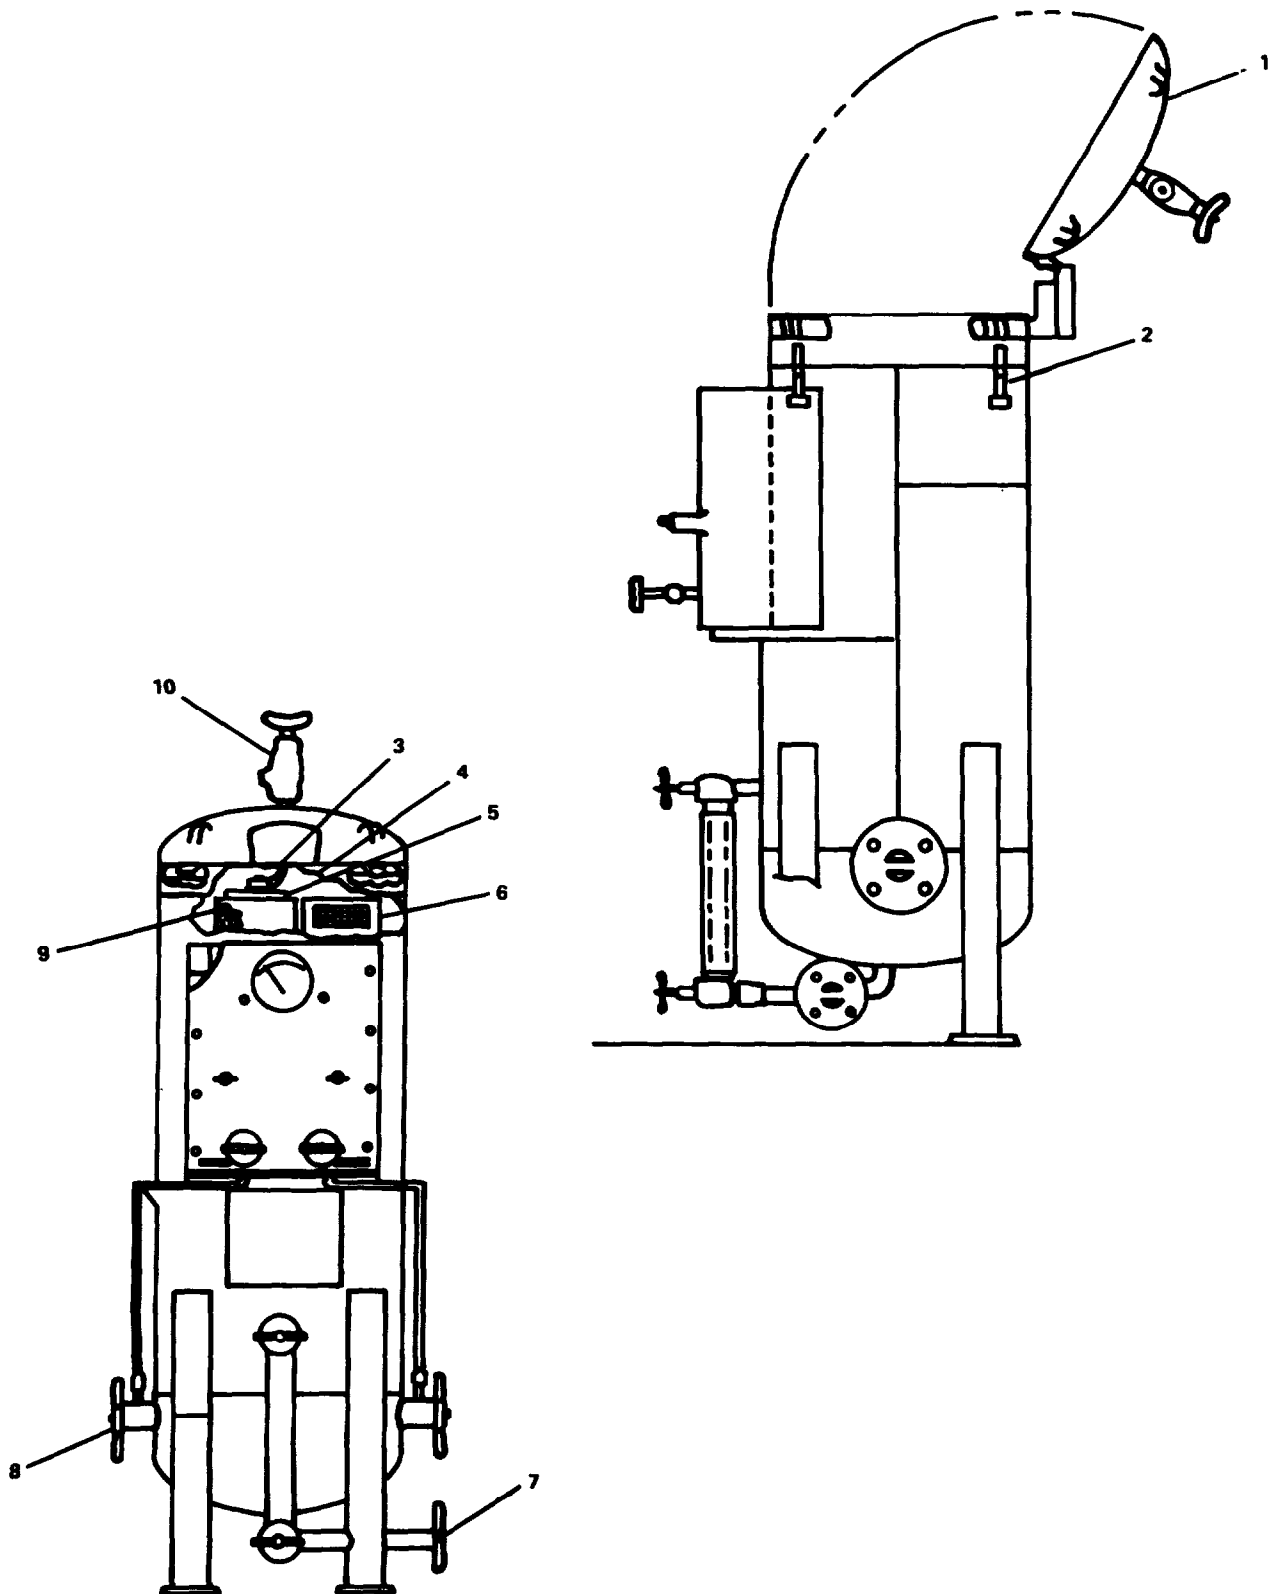
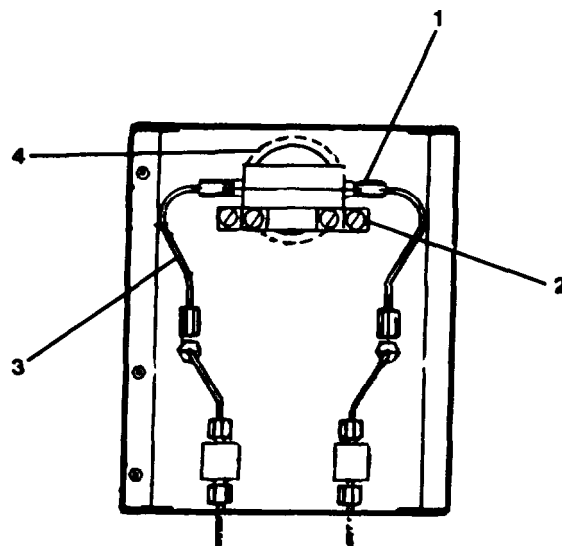

Figure 2-12. Diesel Fuel Oil Filter/Separator.
FIGURE 2-13. Diesel Fuel Oil Filter/Separator. Assembly.
- a. Close inlet valve diesel fuel oil (8, Figure 2-12) to filter/separator.
- b. Slowly open vent valve (10) on top of unit to relieve pressure in housing.
- c. Open drain valve (7) and completely drain out.
- d. Loosen four hex nuts and remove swing bolts (2) from machining end cap (1).
- e. Lift machining end cap (1) by handle and swing back into a rest position.
- f. Remove hexagon self-locking nuts (3), flatwashers (4) and stud seals (5) from each of two fluid filter elements (6) and (9).
- g. Remove fluid filter elements (6) and (9).
- h. Loosen the two tube coupling nuts (1, Figure 2-13).
- i. Gently press the tubing (3) against the differential pressure gauge (4) and pull up on the tube coupling nuts (1) to break the seal between the nut and tube.
- a. Install the differential pressure gauge (4, FIGURE 2-13) by replacing the hexagon cap screws and self-locking nuts (2).
- b. Install the tubes to the differential pressure gauge (4) by tightening the tube coupling nuts (1).
- c. Install fluid filter elements (6 and 9, FIGURE 2-12).
- d. Install stud seals (5), flatwashers (4) and hexagon self-locking nuts (3).
- e. Close the machining end cap (1) and secure with swing bolts (2). Torque hexagon nuts to 35 ft-lbs.
- f. Close drain valve (7).
- g. Make sure vent valve (10) is open. Open inlet valve (8) and when all air has escaped from filter housing, shut vent valve (10).